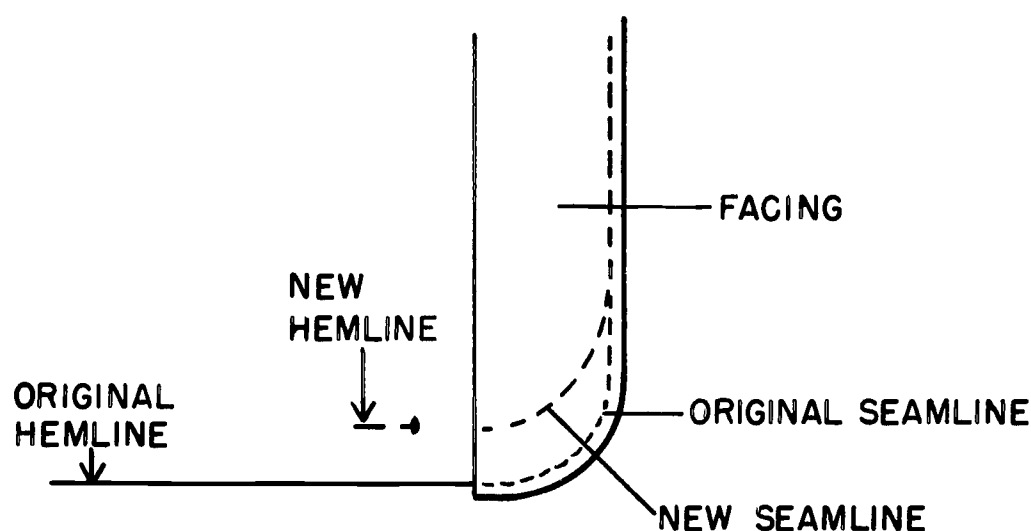

Figure 48.
8. Stitch around the curve of the coat front with stitches ending at the edge of the facing and joining the stitches at the original seamline along the front of the coat (see Figure 48).